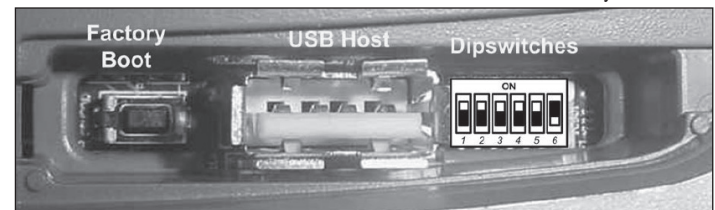

Figure 53. USB port
4. Plug the USB drive into the USB Host port (see **Figure 53**). Within 10 seconds, the module should recognize the USB drive and the OK LED should flash red-green. If the module does not recognize the USB drive, check to make sure that the drive is formatted with FAT file system and that it contains a directory named “logs”.